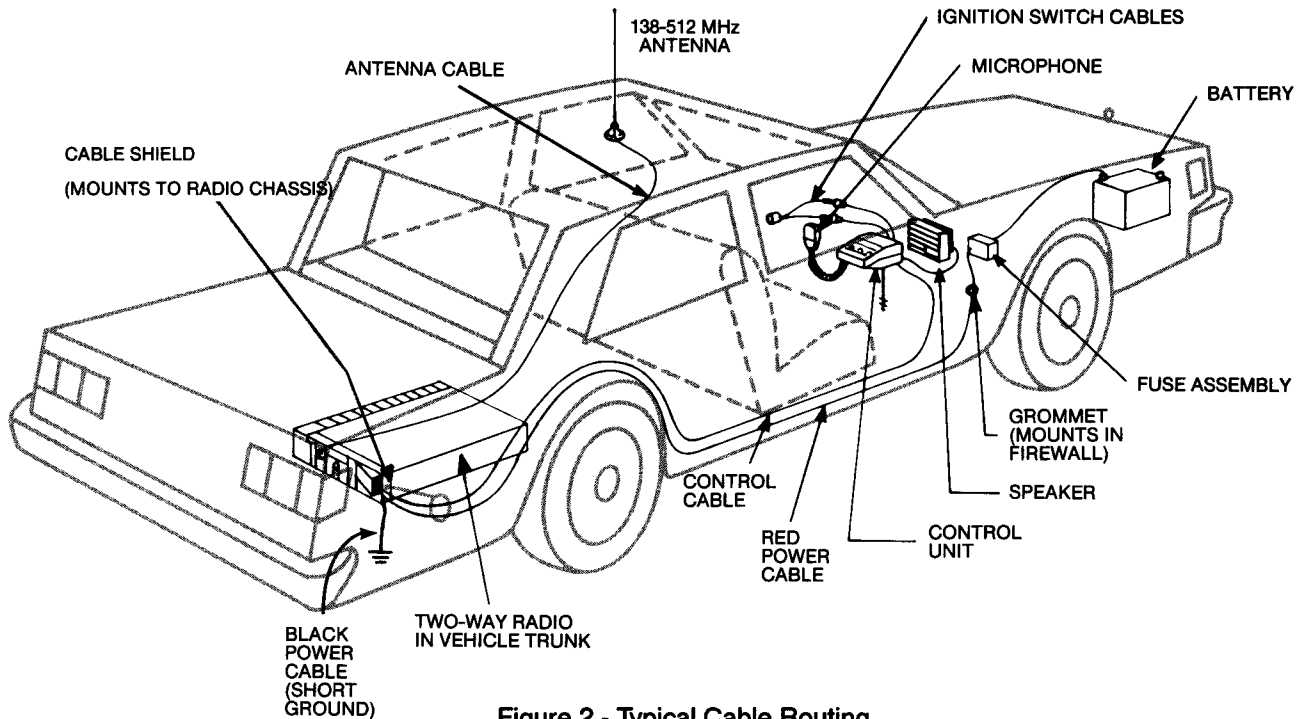

Figure 2 - Typical Cable Routing
If an existing hole is not conveniently located for the passage of the power cable through the firewall, drill a 1-1/8-inch hole and insert the rubber grommet provided. Leave at least 18 inches of slack in the plug end of the cables at the location for the two-way radio. Refer to the Cable Routing Diagram (Figure 2) for additional information.
1. Starting with the plug end of the Power/Control Cable, run the black control cable to the control unit location and the red power cable to the vicinity of the battery. Drill a No. 9 (3/16-inch) pilot hole and connect the short black power cable to a good vehicle ground with the 1/4 x 5/8-inch hex-head self-tapping screw and the two external tooth lock washers. The external tooth lock washers are placed on each side of the black power cable ring terminal. Refer to the Cable Routing Diagram (Figure 2).